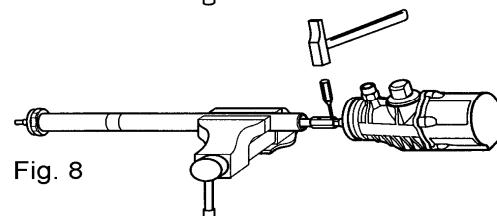

Fig. 8
5. Remove the pin (38) situated in the upper part of the union nut (37) (fig. 8) and unscrew the air motor body from the pump tube assembly.